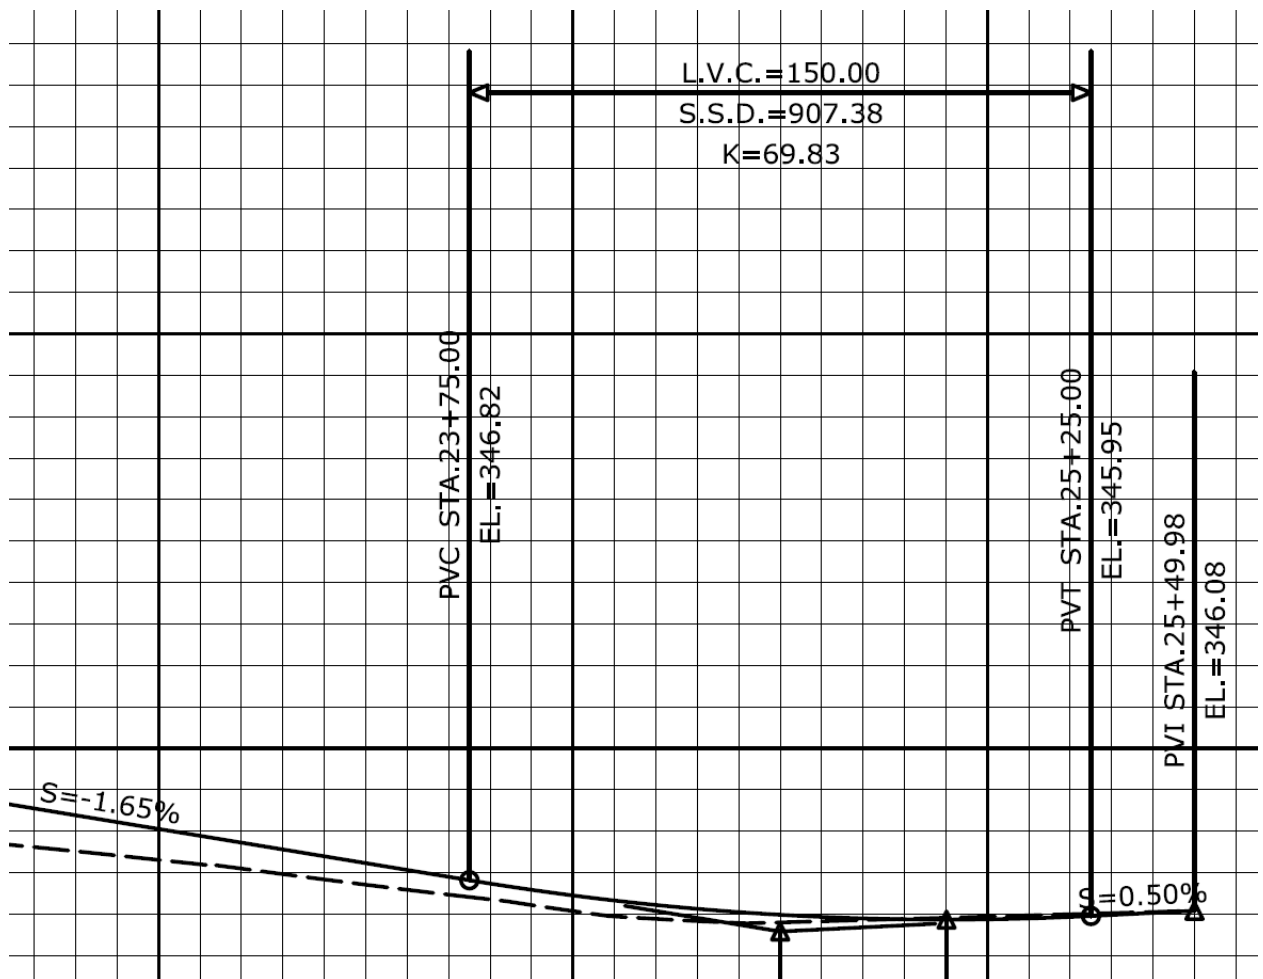

Figure 5-5 MicroStation Screen Shot of InRoads Annotated Vertical Alignment
- In the annotation box, ensure your discipline specific preferences are loaded, for this lab Highway. Click **Apply**. The vertical alignment is annotated. Click **Close**. Figure 5-5 displays an annotated vertical alignment.